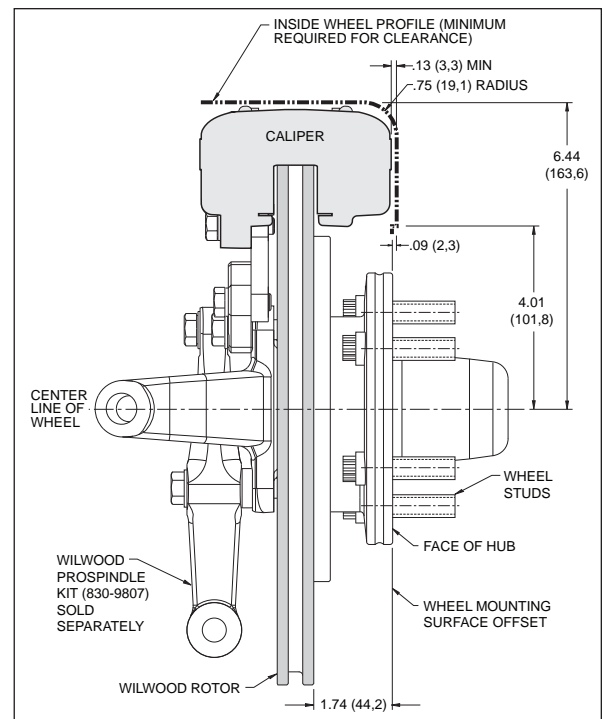

Figure 2. Wheel Clearance Diagram
- Review the wheel clearance diagram (figure 2, page 3) to verify there is adequate clearance with the wheels you will be using with the installation.
- Verify your wheel clearance using Figure 2.
- The caliper mounting bracket assembly (1) in conjunction with the Wilwood ProSpindle (P/N 830-9807, includes three mounting bolts, three washers, and a spacer, kit sold separately) should be installed first with clean, dry threads on the mounting bolts. Install the bracket on the inboard side of the spindle